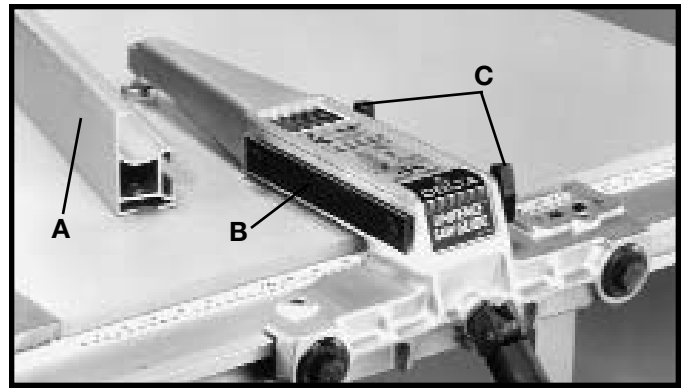
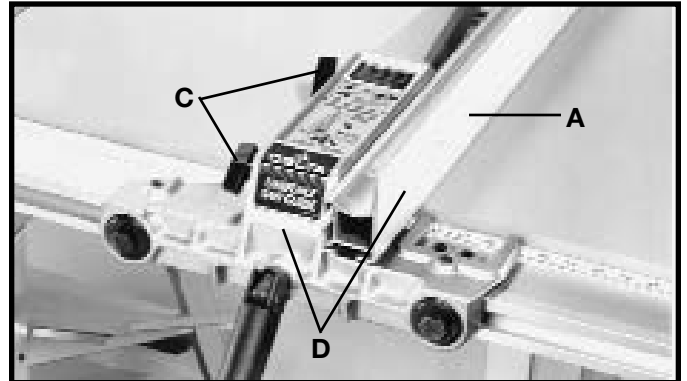

Fig. 52
Fig. 53
In some cases it may be desirable to use the fence on the left side of the saw blade. This is accomplished by repositioning the fence (A) Figures 52 and 53, fence clamp bar (B) and lock knobs (C) so that the fence (A) will be attached to the right side of the fence body, as shown in Fig. 53. The complete fence assembly (D) Fig. 53, can easily be moved to the left side of the saw table.